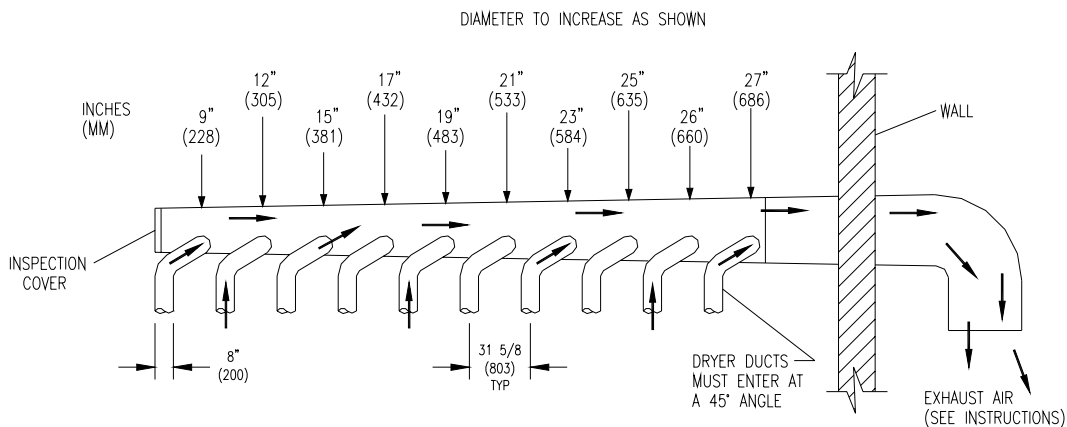

FIGURE 2- Dryer Exhausting Using A Main Discharge Duct.
7. **EXHAUST INSTALLATION.** (Refer to Figure 2 at the end of section 7.) Exhausting of the dryer(s) should be planned and constructed so that no air restrictions occur. Any restriction due to pipe size or type of installation can cause slow drying time, excessive heat, and lint in the room.
Installation of several dryers, where a main discharge duct is necessary, will need the following considerations for installation (see Fig.2). Individual 8" ducts from the dryers into the
NOTE: Never install the individual 8" ducts at a right angle into the main discharge duct. The individual ducts from the dryers can enter at the sides or bottom of the main discharge duct. Figure 2 indicates the various round main duct diameter to use with the individual dryer ducts. The main duct can be rectangular or round, provided adequate airflow is maintained. For each individual dryer, the total exhausting (main discharge duct plus duct outlet from the dryer) should not exceed the equivalent of 20 feet and two elbows. The diameter of the main discharge duct at the last dryer must be maintained to exhaust end.